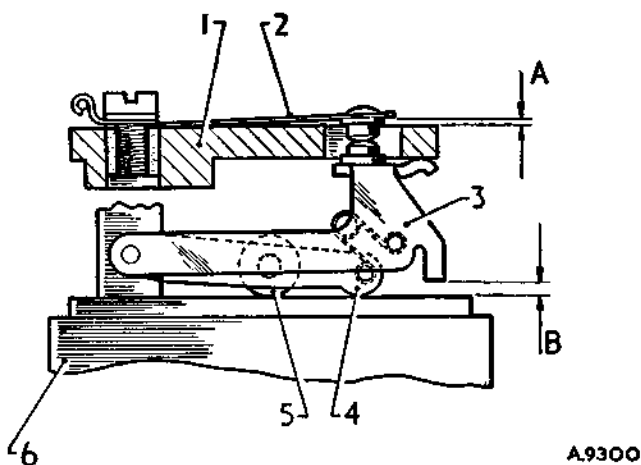

Fig. D.5
the pedestal (A) (Fig. D.5) with a feeler gauge, bending the stop finger beneath the pedestal, if necessary, to obtain a lift of  $.035 \pm .005$  in. ( $.9 \pm .13$  mm.).
34. Check the gap between the rocker finger and coil housing (B) (Fig. D.5) with a feeler gauge, bending the stop finger, if necessary, to obtain a gap of  $.070 \pm .005$  in. ( $1.8 \pm .13$  mm.).